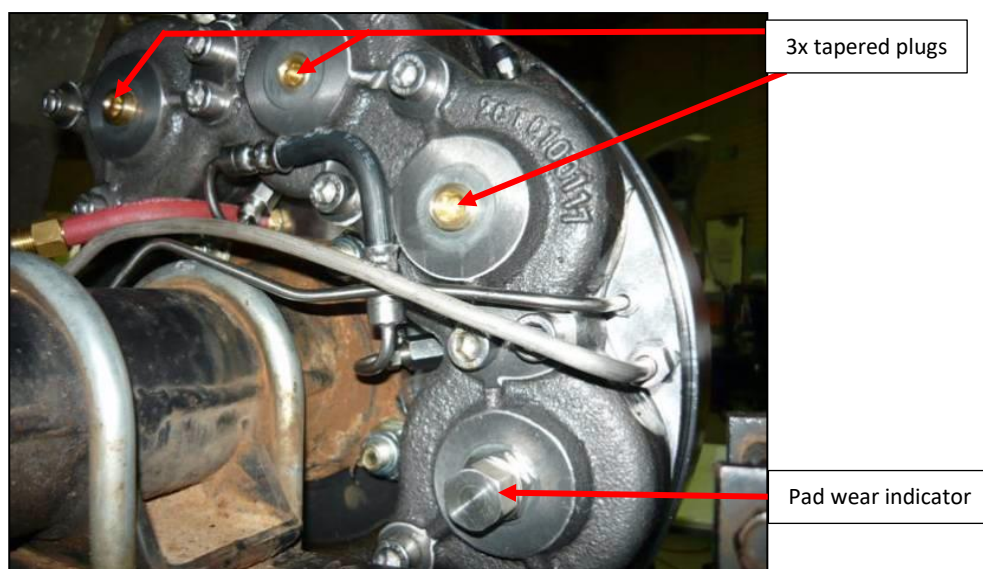

Fig. 25
- e. Fit 3x supplied tapered plugs to seal the remaining holes in the spring cover. Use an anti-seize or a low strength thread locker on the threads to prevent the plugs seizing in the spring cover. See Fig. 25